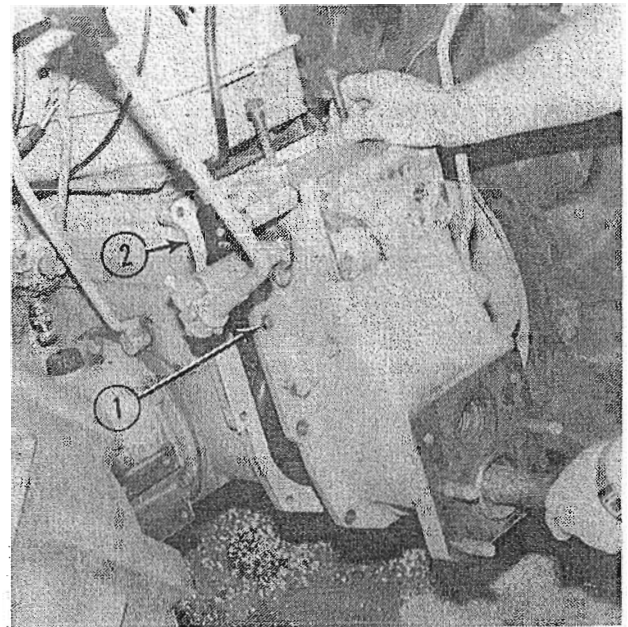

FIG. 12
Place a new gasket on the face of the main transmission case (2, Fig. 12) and install the (2) threaded support pins (1, Fig. 12) to guide the cover during installation.